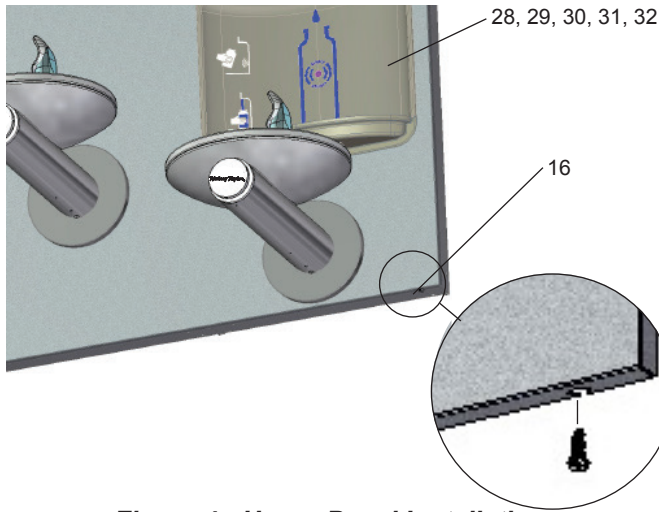

Figure 4 - Upper Panel Installation
16. **Install** the bottom panel, tighten screws (Fig. 4).